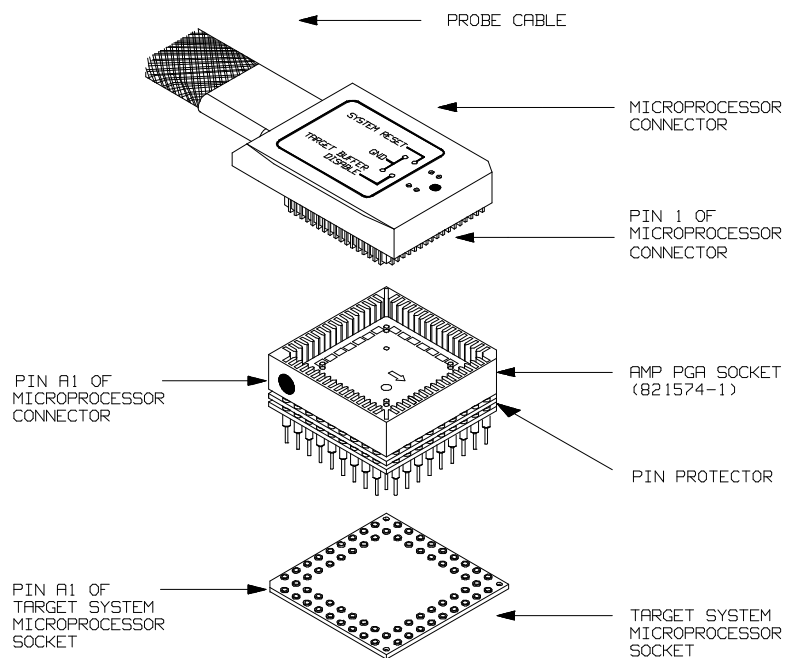

Figure 3-3. Installing into a 70136 PGA type socket
- Place the microprocessor connector with an AMP socket and a pin protector (see figure 3-3), attached to the end of the probe cable, into the target system microprocessor socket.